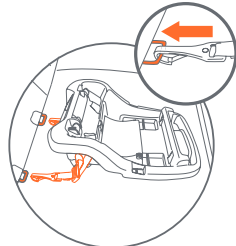

Fig. 47-1
4. Remove the **LATCH** connectors from their storage position inside the base (Fig. 46-1). Place the Base in the rear-facing position in a forward facing vehicle seat as shown in (Fig. 47-1). **The Child must face the rear of the vehicle and Safety Seat must be placed in a vehicle seat that faces forward.**